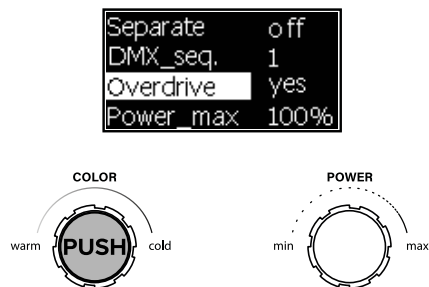

Fig. 33
1. Pressing on the left encoder calls the **Overdrive** menu (Fig.33).